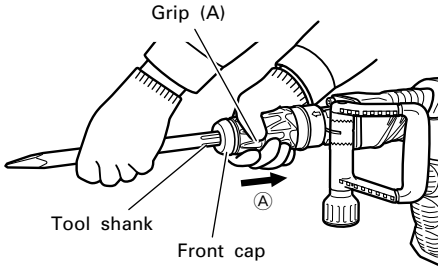
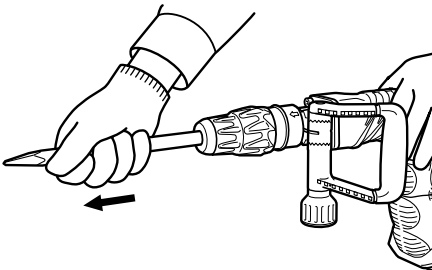

Fig. 1
Fig. 2
- (1) Clean the shank portion of the tool.
- (2) As shown in Fig. 1, pull grip (A) in the direction of (A), and insert the tool into a hole of the front cap.
- (3) Adjust the groove position while turning the tool, and furthermore insert it until it hits the end of the hole.
- (4) Return grip (A) to its original position, pull the tool and make sure it is locked completely (Fig. 2).
As shown in Fig. 1, pull grip (A), and pull out the tool.